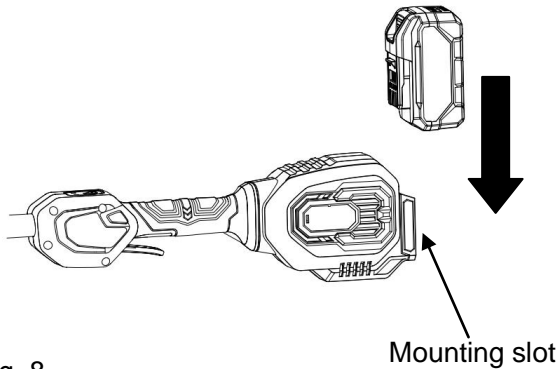

Fig. 8
2. Align the ribs of the battery pack with the mounting slots in the battery port. Insert the battery pack into battery holder. (Fig.8 )